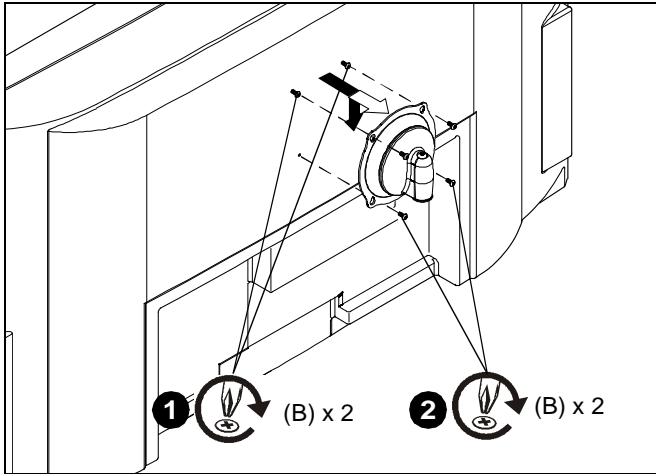

Figure 3
1. Start two M4 x 8mm Phillips pan head screws (B) into upper mounting holes in display back. (See Figure 3)
2. Install two M4 x 8mm Phillips pan head screws (B) through bottom holes of faceplate and into display back. (See Figure 3)